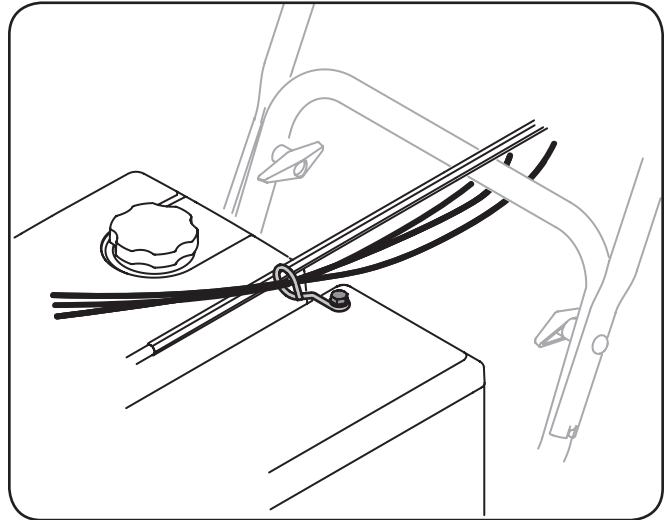

Fig. 3-10
9. It is important that all cables be routed through the cable guide and remain positioned on the left side of the chute control rod. See Fig. 3-10.